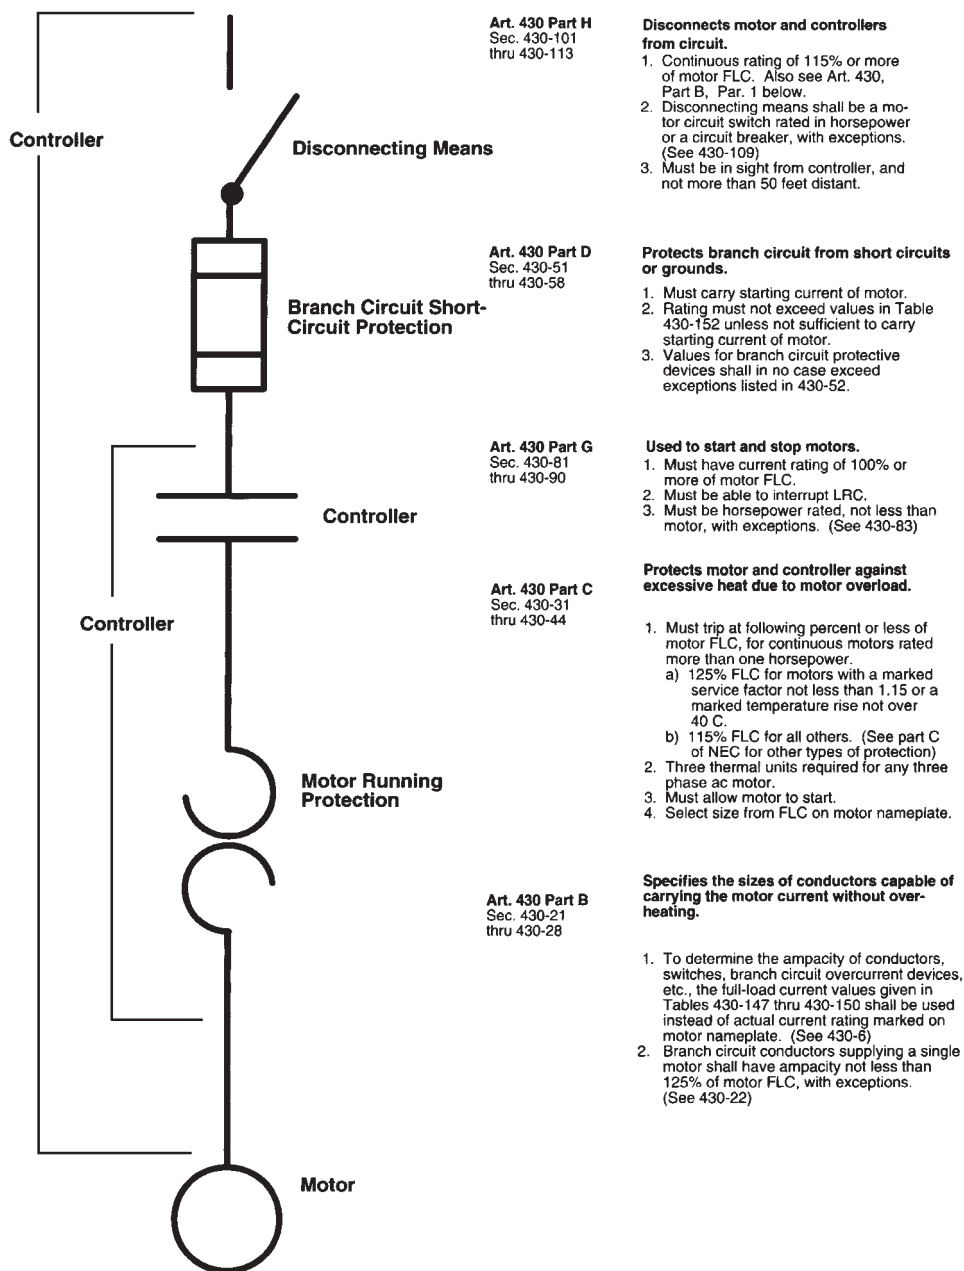

Figure 11.4 Typical NEC diagram; several are scattered throughout the NEC for clarity.
5. ***Diagrams:*** A few diagrams are scattered throughout the NEC to illustrate certain NEC applications (Fig. 11.4).